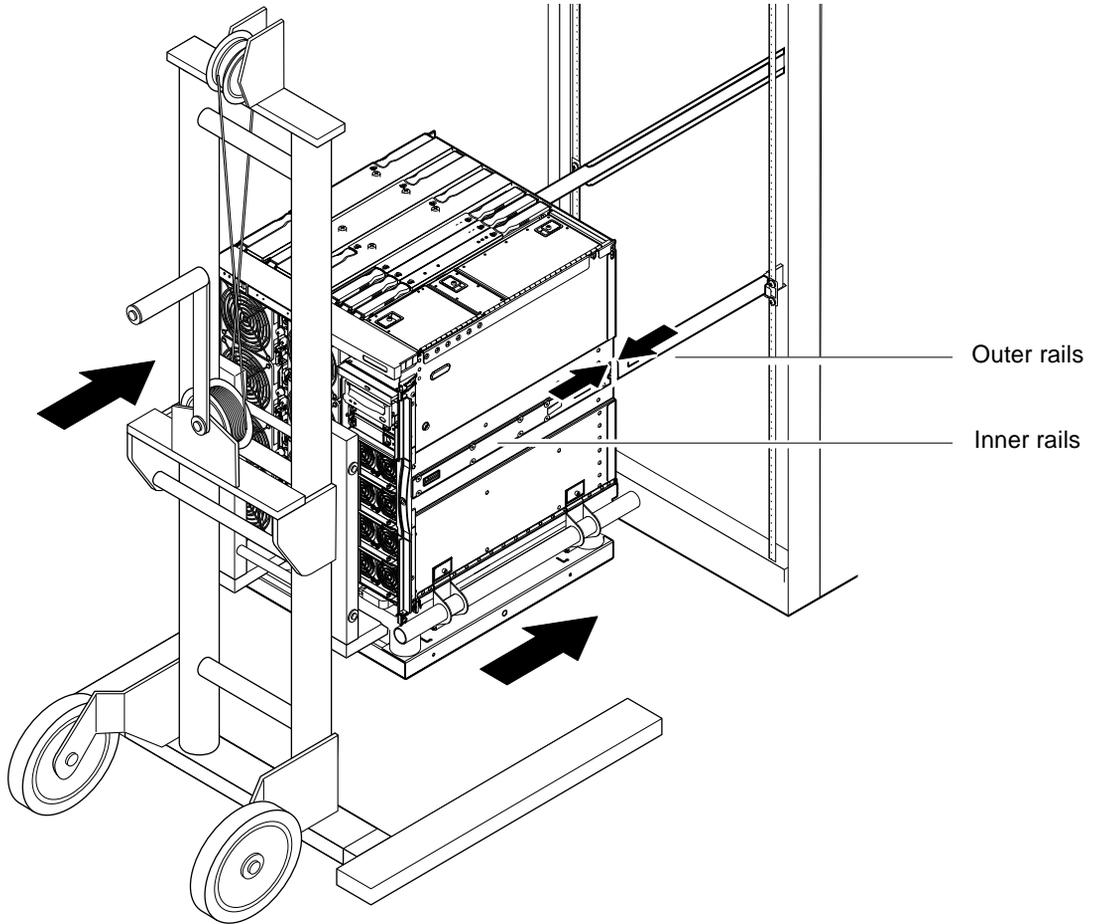

FIGURE 1-11 Aligning the Rails
6. Carefully move the lifting device forward until the rails on the server are fully engaged with the outer rails on the cabinet (FIGURE 1-11).